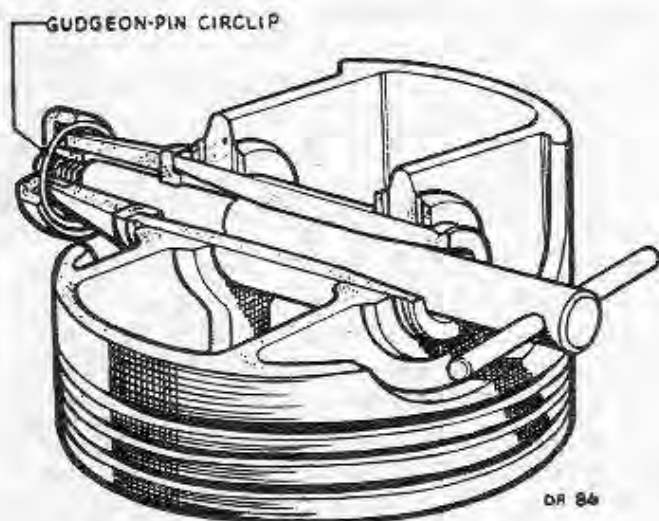

Fig. 8. Inserting a gudgeon-pin circlip
61. New circlips, Part No. 800-19, must be fitted in place of those removed, but any circlip which has not been disturbed and which is secure in its groove need not be replaced. Normally circlips can be refitted with the fingers but the gudgeon-pin circlip inserter T2200-162 may be used as shown in fig. 8. Fit a thrust washer and circlip to one end of the gudgeon-pin so that the chamfered face of the washer is towards the circlip. Each piston must be fitted to its correct connecting-rod, according to the sequence number stamped on the piston crown, and assembly is correct when the number can be read from the propeller end of the engine. Support the piston so that no bending load will be imposed on the connecting-rod, lubricate the small end bore with clean approved engine oil and insert the gudgeon-pin, if necessary using a rubber mallet to tap it into position. Fit the remaining thrust washer with the chamfered face away from the piston followed by the circlip, ensuring that it is correctly located in its groove.